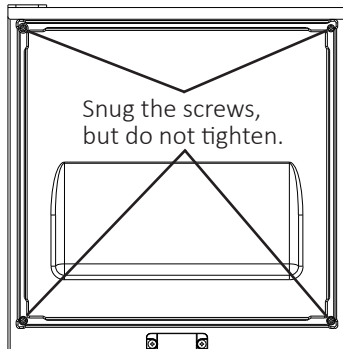

Fig. 17
- 5) Fasten the overlay panel to the door using the four M4×25 pan head screws provided. Snug the screws, but do not tighten (See Fig. 17).